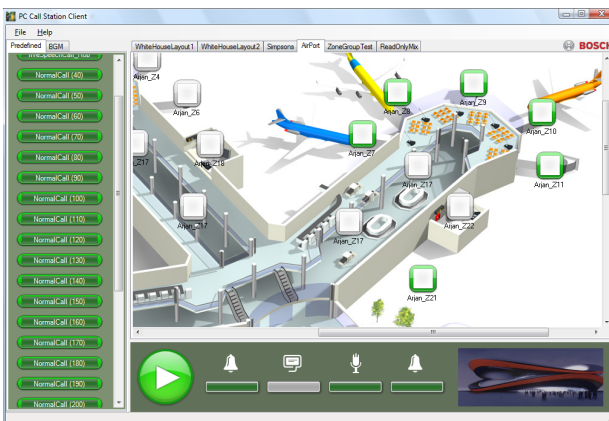

figure 60.2: Predefined calls tab
- 7 Press the *OK* button. A screen similar to the one in figure 60.2 appears.